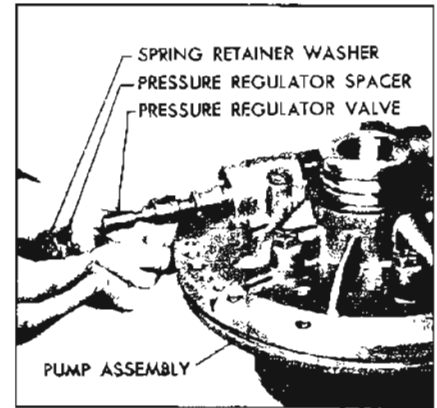

Figure 5-578
5. Remove the regulator valve, spring retainer and spacer(s), if present. See Figure 5-578.